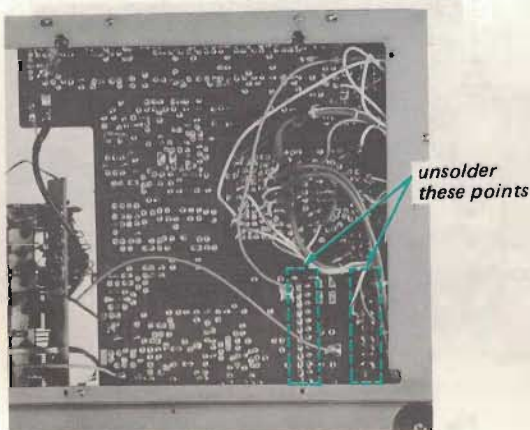

Fig. 2-15 FUNCTION (2) switch removal
4. With a soldering-iron having a solder-sucking tip, clean the solder from each lug of the defective switch and the printed board, as shown in Fig. 2-15. This frees the switch.